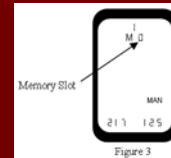

Figure 3
- The screen will now display an "M" followed by a single blinking digit. In this screen, you will assign a memory slot, "M", to the collar frequency (see Figure 3).